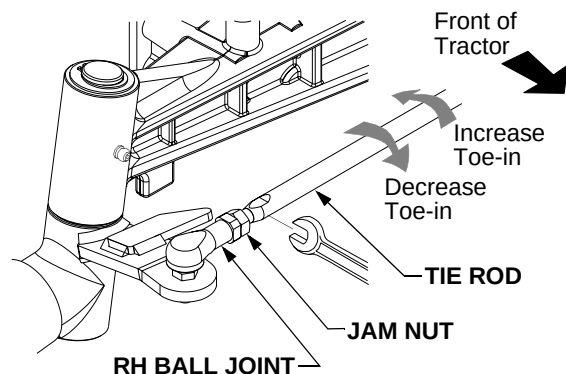

Figure 27
- Loosen the jam nuts at both the LH and RH ball joints. See Figure 27.
Rearward to shorten the tie rod and increase the toe-in. See Figure 27.
Forward to lengthen the tie rod and decrease the toe-in. See Figure 27.